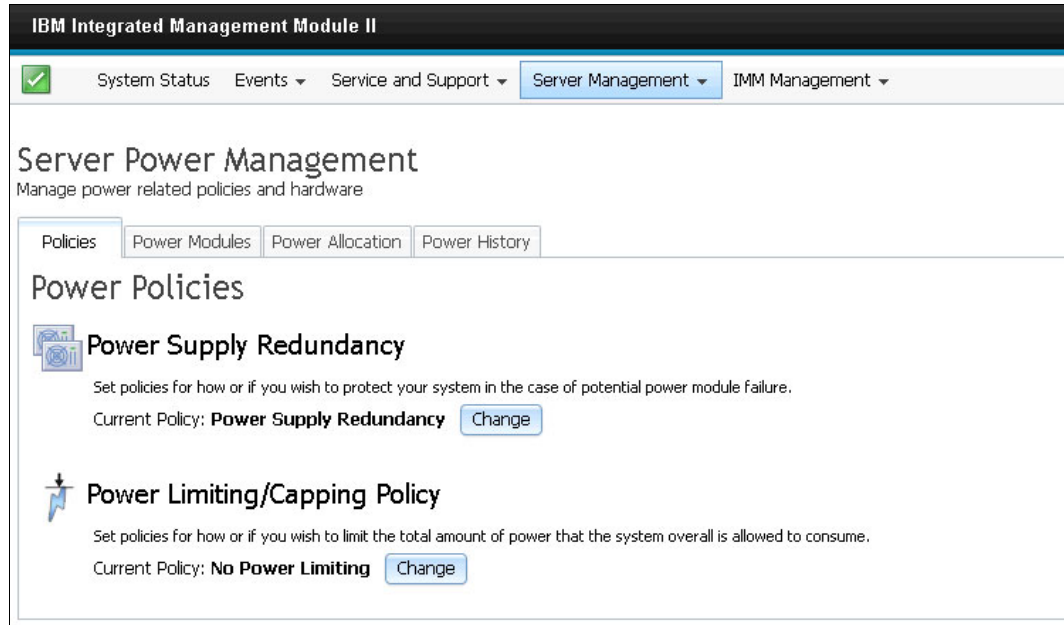

Figure 17 Server Power Management tab
- b. Click the **Server Power Management** tab, as shown in Figure 17 on page 20.